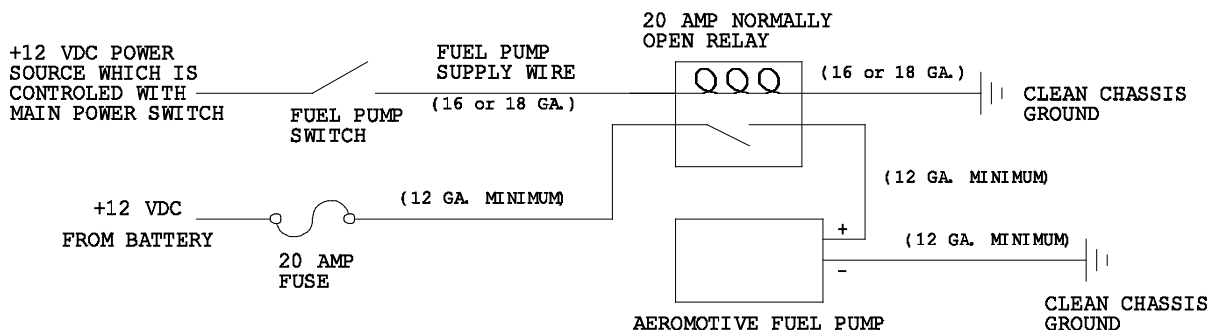

Figure 2-1
39. Prep the new tank by making all the necessary connection (feed, return, vent and electrical) before placing tank in vehicle. In most cases, once the tank is placed in the vehicle these connections will not be accessible. For electrical wiring refer to **Figure 2-1**.